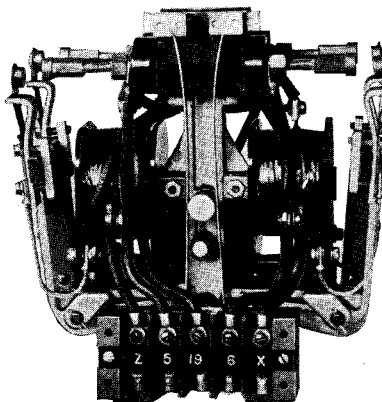

FIG. 8—COVER MOUNTED TYPE AUXILIARY RELAY FOR MOUNTING ON TOP OF REGULATOR COVER
50. Auxiliary Relay Adjustments—This relay requires practically no adjustment except the contacts. These are adjusted at the factory so that the contact spring on the moving contact is deflected between $\frac{1}{32}$ and $\frac{1}{16}$ inch when the armature hits the magnet pole. (See Fig. 8). As the contacts burn down this spring deflection will decrease, and from time to time the stationary contacts should be screwed out on the threaded support so that the spring deflection will not become less than $\frac{1}{32}$ inch.